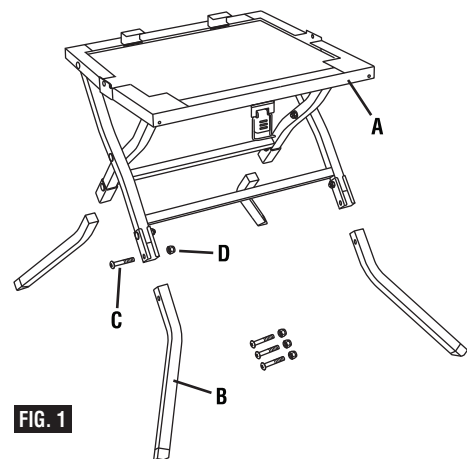

FIG. 1
- Slide the legs **B** into the stand (Fig. 1).